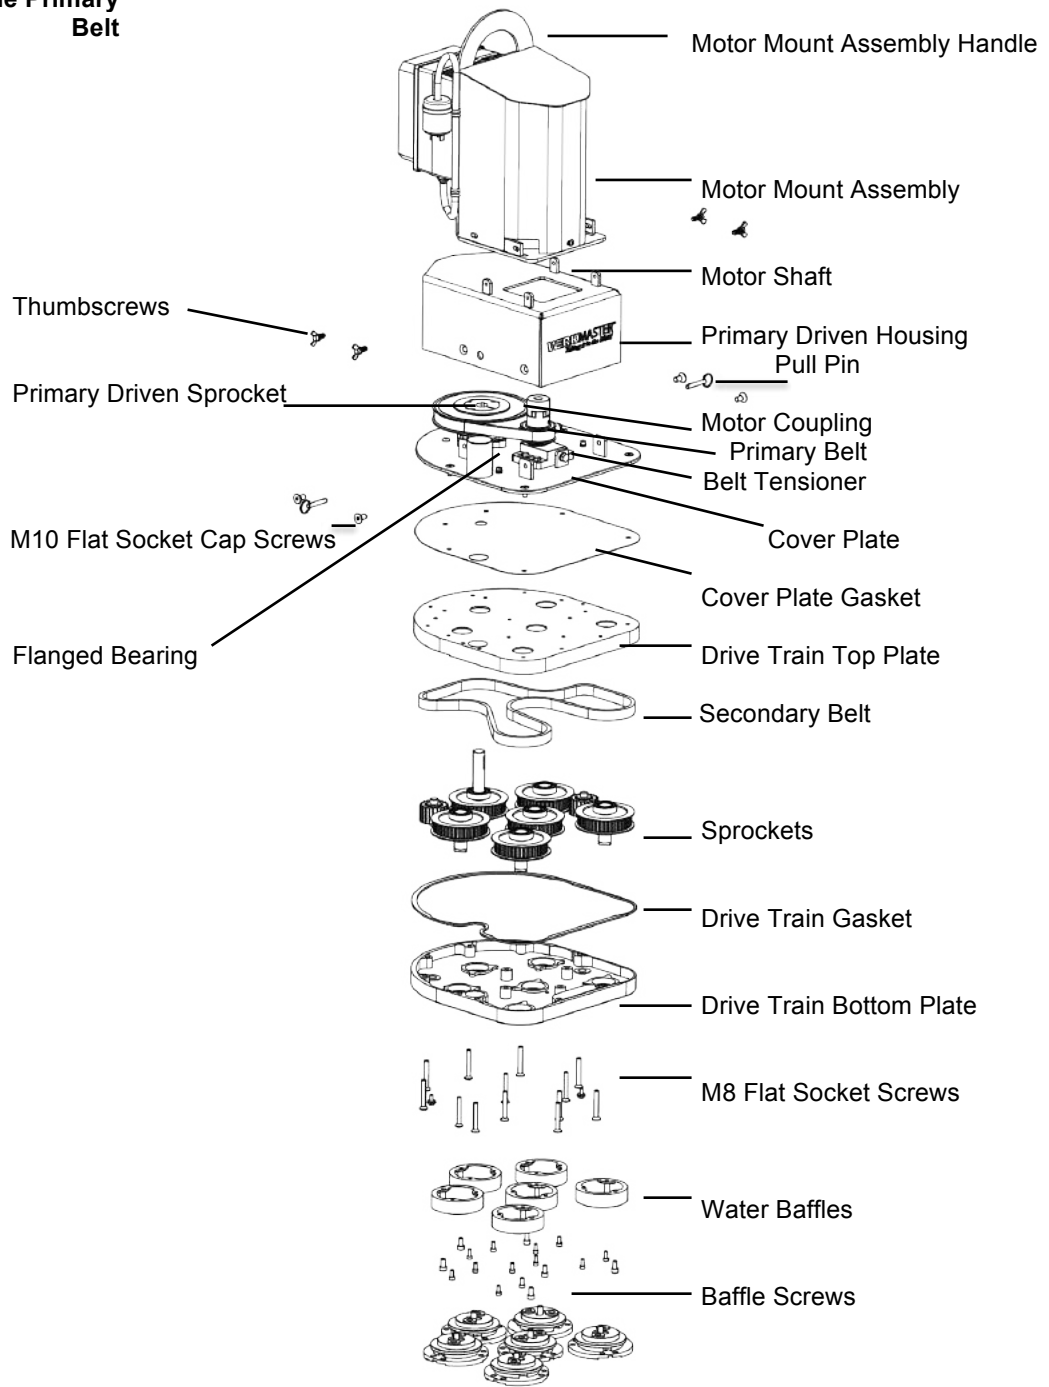

Fig 7
6. Remove the four M10 flat socket cap screws on the primary driven housing (Fig 7) exposing the primary belt.
4. Remove the water baffles (Fig 7).